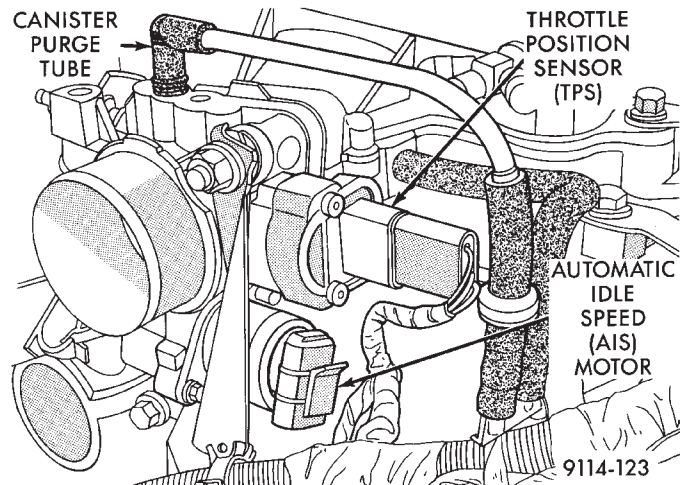
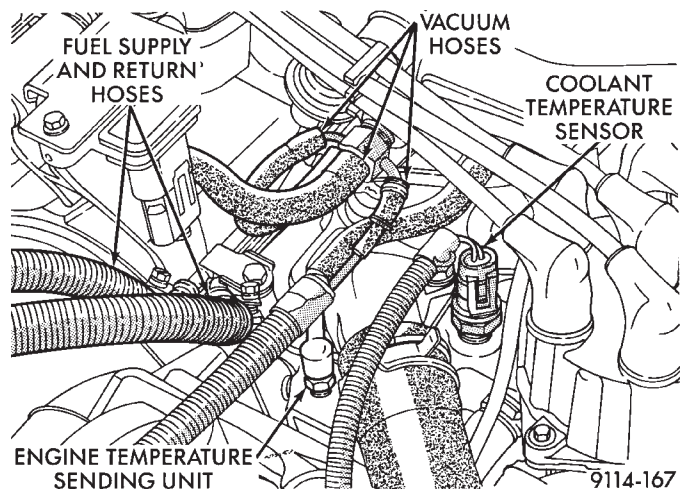

Fig. 5 Electrical and Vacuum Connections to Throttle Body
Fig. 7 Coolant Temperature Sensor Electrical Connections
- (13) Connect fuel line to fuel rail (Fig. 7). Torque hose clamps to 1 N•m (10 in. lbs.).
(15) Connect coolant temperature sensor electrical connector to sensor (Fig. 7).
(16) Connect PCV and brake booster supply hose to intake plenum.
(17) Connect automatic idle speed (AIS) motor and throttle position sensor (TPS) electrical connectors (Fig. 5).
(18) Connect vacuum vapor harness to throttle body (Fig. 5).